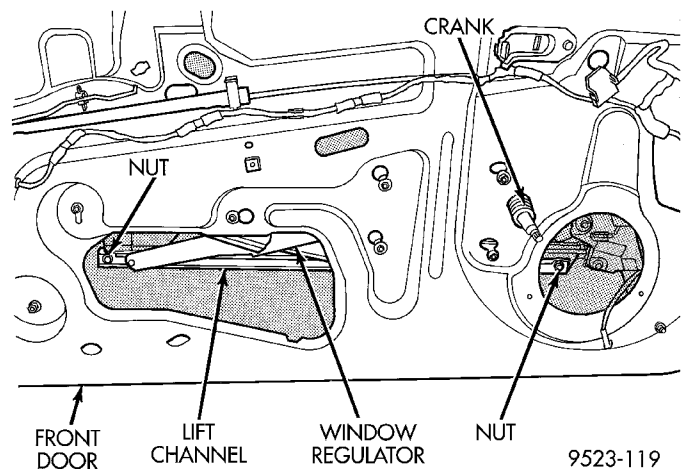

Fig. 15 Regulator Lift Channel
- (1) Remove door trim panel and water shield.
- (2) Remove inner and outer door belt weatherstrips.
- (3) Loosen inner belt stabilizer.
- (4) Lower door glass to bottom of travel to access glass attachment bolts.
- (5) Remove bolts holding regulator lift channel to door glass (Fig. 15).